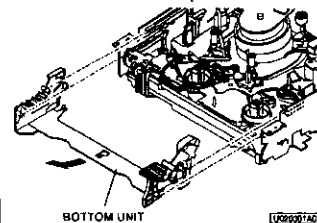

Fig. 2-3-1
2. Remove the BOTTOM UNIT in the direction shown by the arrow as shown in Fig. 2-3-1.